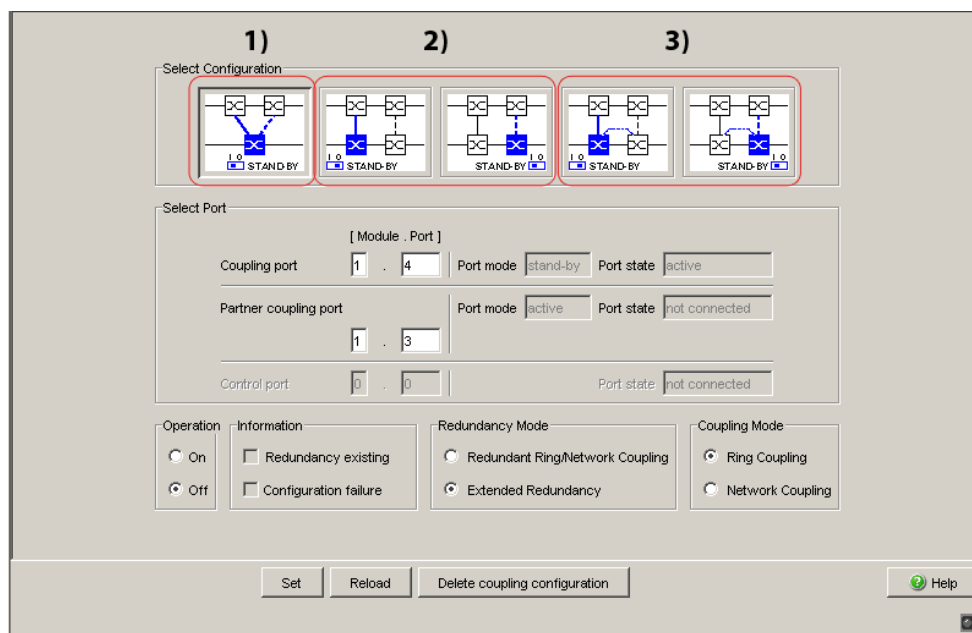

Figure 7: Selecting the configuration
- ☐ You first select the configuration you want: One-Switch coupling ("1"), two-Switch coupling ("2") or two-Switch coupling with control line ("3"), (see fig. 7).